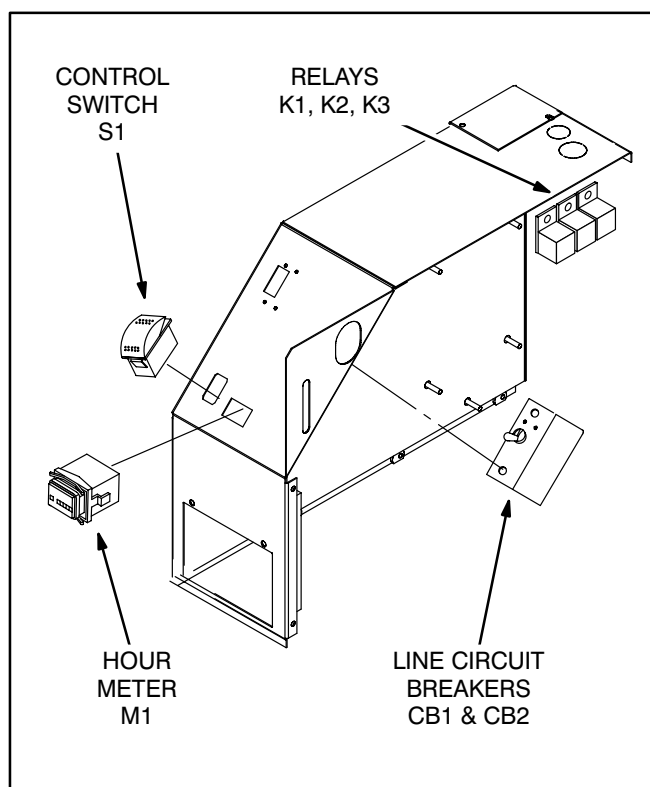
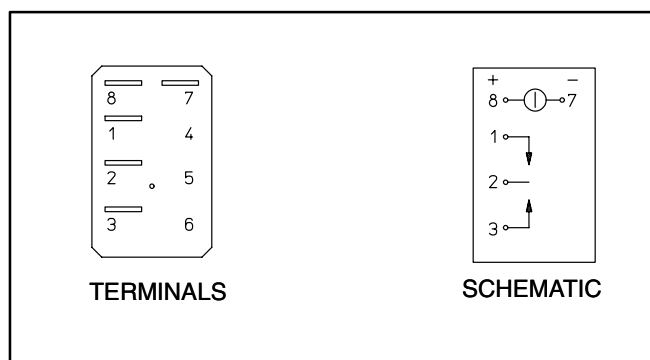
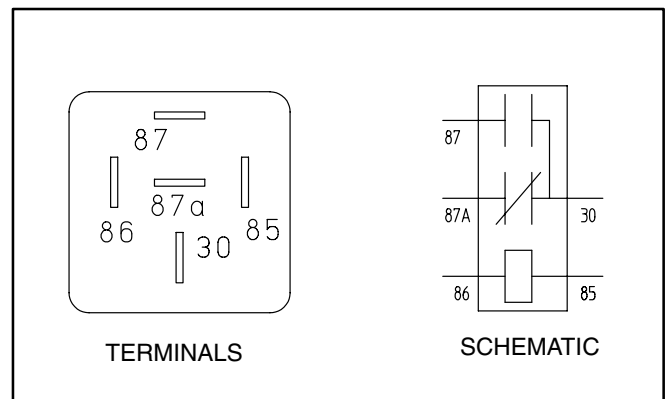

FIGURE 11-4. CONTROL COMPONENTS
FIGURE 11-5. CONTROL SWITCH S1
FIGURE 11-6. RELAYS K1, K2, K3
Local Control Switch S1: Switch S1 is mounted on the control panel (Figure 11-4). Unsnap connector **P9**, which is accessible through the front access door. Referring to Figure 11-5, replace the switch if:
These relays (Figure 11-4) are secured in a row above the intake resonator and are accessible for replacement through the top access door. To test a relay, apply 12 VDC across terminals 85–86 (Figure 11-6). Replace the relay if 30–87a (NO) does not close or 30–87 (NC) does not open, or either does not return to its normal position when power is removed.
The hour meter (Figure 11-4) is mounted on the control panel and is accessible for replacement through the front access door. It cannot be reset.
The line circuit breakers (Figure 11-4) are mounted on the control panel and are accessible for replacement through the front door. Disconnect all wiring and check electrical resistance across the terminals of each circuit breaker. Replace a circuit breaker that does not reset or that does not close or open as the handle is turned ON and OFF.